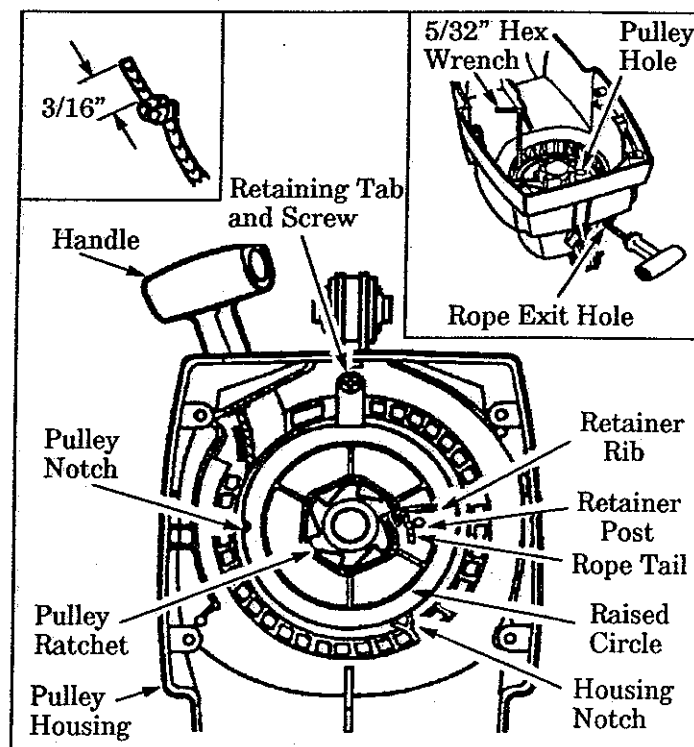

Figure 25
6. Untie Rope around the Pulley Ratchet (Figure 25) and pull the Rope out of the Pulley Housing.
7. Position the Pulley Housing as shown in Figure 25. Hand turn the Pulley clockwise → as far as it will go. Then, turn the Pulley counterclockwise ← until the Pulley Notch is aligned with the Housing Notch. Figure 25. Next, turn the Pulley one complete turn counterclockwise ← until the notches are aligned again.
12. Insert one end of the Rope through the Handle and secure with a knot. Leave a 3/16" pigtail behind the knot. Figure 25 (inset-upper left).
13. Insert the other end of the Rope through the Rope Exit Hole into the inside of the Housing, into the Pulley and up through the Pulley Hole. See Figure 25 (inset-upper right).
14. Wrap Rope counterclockwise ← around the Pulley Ratchet and tuck loose end under Rope where it comes out of the Pulley Hole. Leave a 1/4 to 3/8 inch tail laying flat on top of the Pulley between the Retainer Rib and the Retainer Post as shown in Figure 25. Pull firmly on the rope to tighten it against the Pulley Ratchet. The rope tail must not extend beyond the Raised Circle on the Pulley to prevent interference with the Retaining Tab. Figure 25.